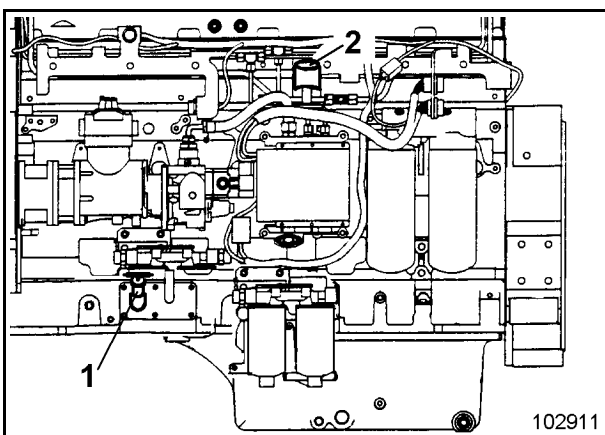
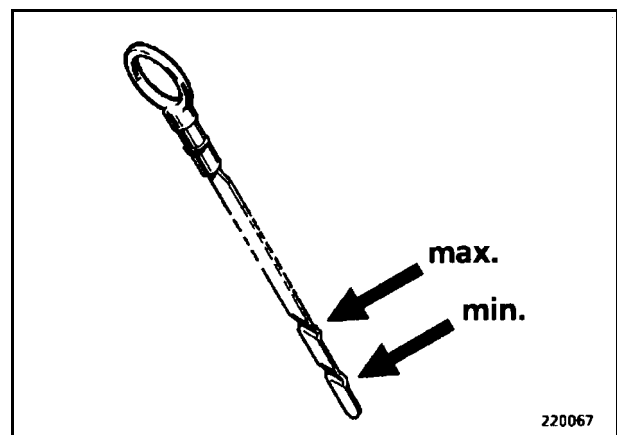

Fig. 3-12:
Fig. 3-13:
- Fill in engine oil through the filler tube (2, Fig. 3-12:) until the oil level reaches the "max" mark (Fig. 3-13:).